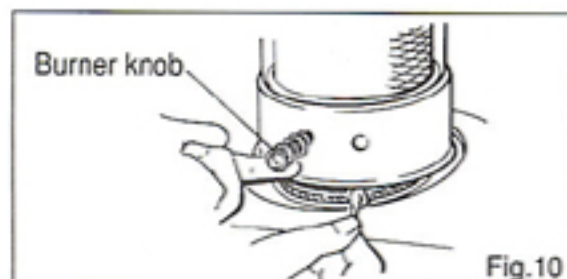

Fig.10
- A broken igniter wire or dead batteries should be replaced with new ones. If a match is used, open the guard and light as illustrated. (Fig.10)